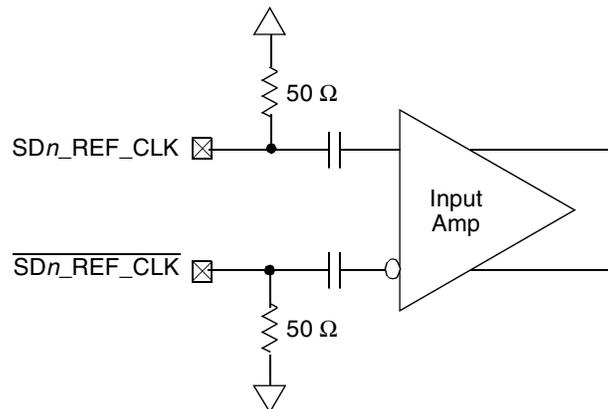

Figure 49. Receiver of SerDes Reference Clocks
Figure 49 shows a receiver reference diagram of the SerDes reference clocks.
- The $\overline{\text{SDn_REF_CLK}}$ and SDn_REF_CLK are internally AC-coupled differential inputs as shown in Figure 49. Each differential clock input ($\overline{\text{SDn_REF_CLK}}$ or SDn_REF_CLK) has a 50 Ω termination to SGND_SRDS_n (xcorevss) followed by on-chip AC-coupling.